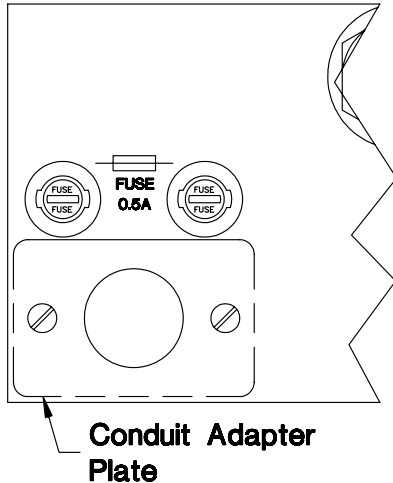

Figure 3: Installation of Conduit Adapter Plate
3. Install the conduit adapter plate (supplied) in the hole where the AC inlet receptacle was removed (see Figure 3).